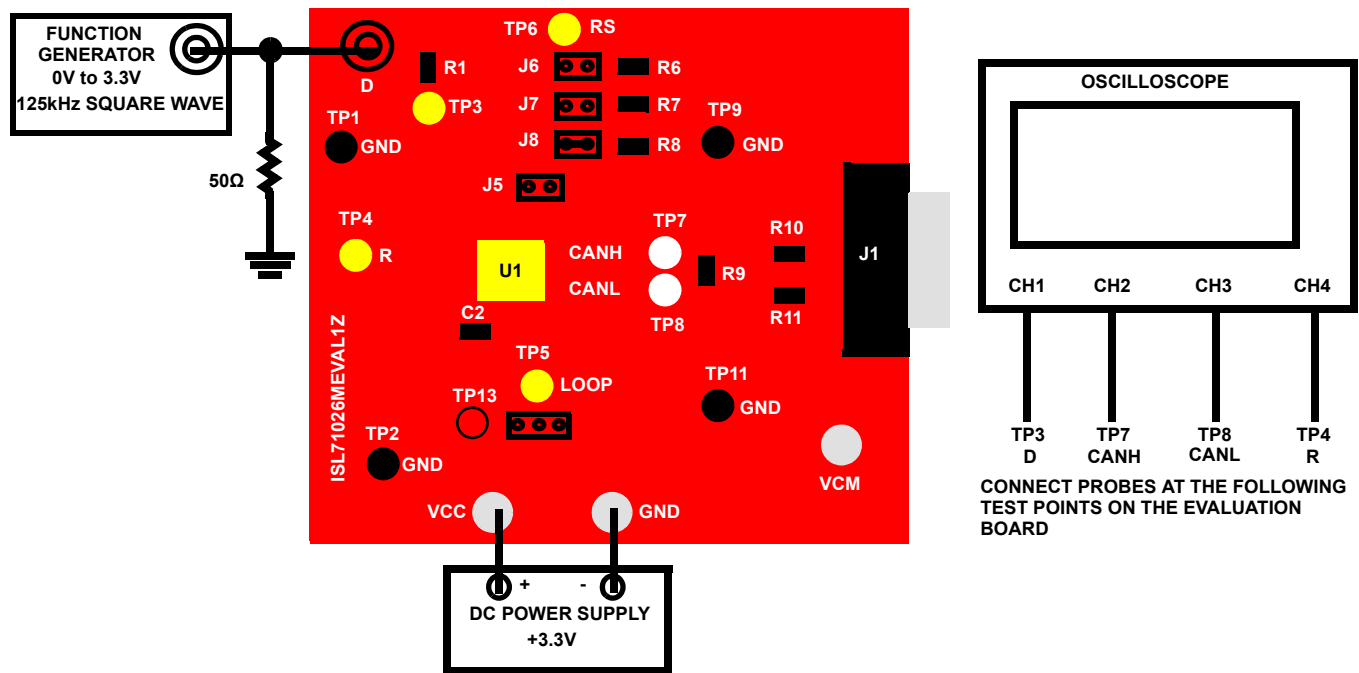

Figure 2.1 Basic Evaluation Test Setup Block Diagram (Measuring Propagation Delay, Skew, and Rise/Fall Time)
Refer to Figure 2.1 on page 6.
- (1) Attach the main evaluation board to the DC power supply to the banana jacks labeled VCC and GND as shown in Figure 2.1 on page 6. Positive terminal at VCC and negative terminal at GND. The supply should be capable of delivering 3.0V to 3.6V and 100mA of current. Set the supply voltage to 3.3V.
- (2) Configure the board for high speed mode by installing a jumper at J8. No jumpers should be installed at J5, J6, J7, and J9.
- (3) Connect the oscilloscope to the evaluation board as indicated in Figure 2.1 on page 6.
- (4) Connect the function/signal generator at the BNC connector labeled D on the evaluation board as shown in Figure 2.1 on page 6. Set the generator to output a 125kHz square wave, 0V to 3.3V amplitude, 50% duty cycle with a $t_{\text{rise}} = t_{\text{fall}} \leq 6\text{ns}$. Disable the generator output.
- (5) Verify that a 60Ω resistor is installed at location R9 on the evaluation board.